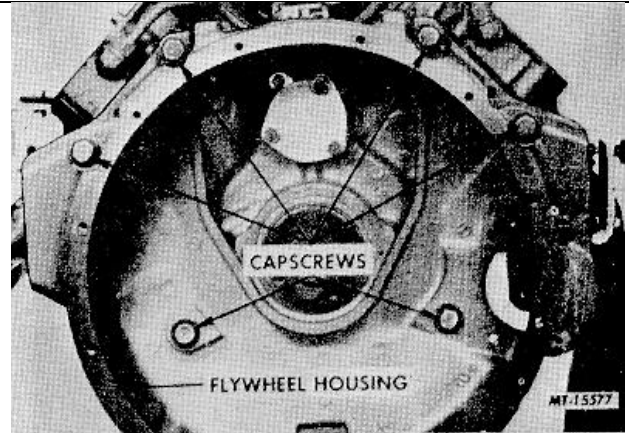

Fig. 51 Flywheel Housing Mounting Details
43. Remove six capscrews and flat washers and remove flywheel housing (Figure 51).